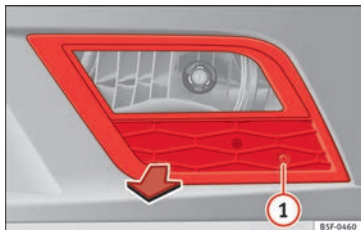

Fig. 150 Front fog light.
- Remove the bolt » Fig. 150 ① from the fog light grille with a screwdriver.